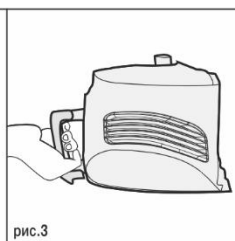

рис.3
4. Turn the dust container upside down and pour the dust and dirt into the trash can. (See Figure 3 page 2)